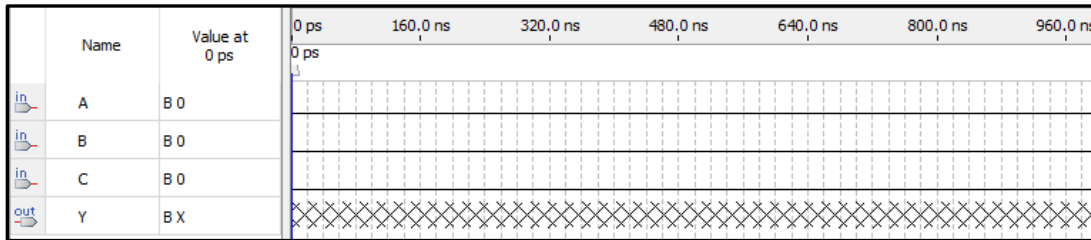

Figure 7: VWF with inputs and outputs
- You should now see the inputs and outputs in the vector waveform file window. Save this file. The window should look like Figure 7.